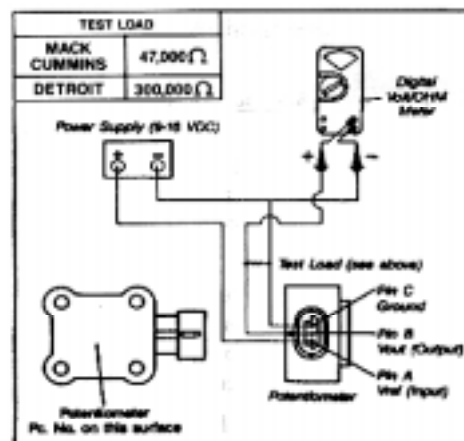

FIGURE 3 - Electrical Schematic
3. Connect the potentiometer to the volt meter and power supply as shown in Figure 3.